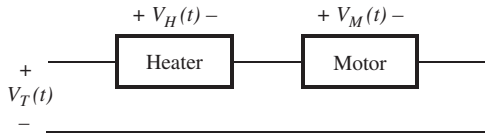

Figure P6.34 Conveyor motor and heater connected across the 220 V service line.
- 6-34.** A manufacturing plant employs a heater and a conveyer belt motor on the same 220 V service line as shown in Fig. P6.34. The voltages across the heater and motor are given by $V_H(t) = 66 \cos(120\pi t)$ V and $V_M(t) = 180 \cos(120\pi t + \frac{\pi}{3})$ V, where t is in seconds.
- 6-35.** Suppose the voltages across the heater and motor of Fig. P6.34 are given by $V_H(t) = 50 \sin(30\pi t)$ volts and $V_M(t) = 150 \cos(30\pi t - \frac{\pi}{4})$ volts, where t is in seconds.